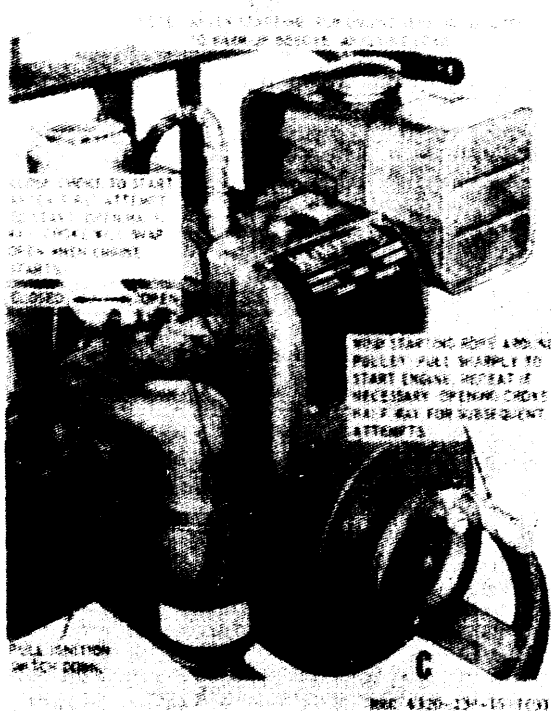

Figure 7 (3)--Continued.
b. Refer to figure 7 to start the pumping assembly.